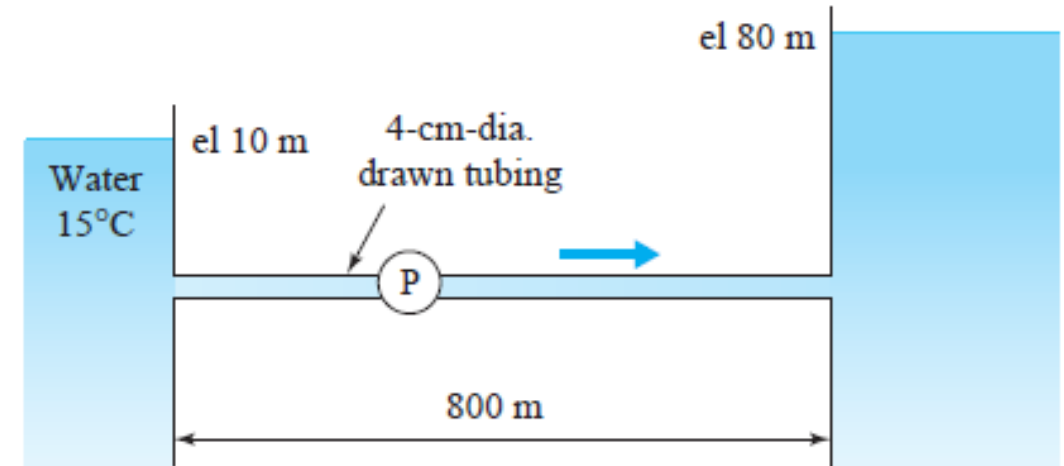

Fig. P7.132
7.132 What pump power (85% efficient) is needed for a flow rate of $0.01 \text{ m}^3/\text{s}$ in the pipe shown in Fig. P7.132? What is the greatest distance from the left reservoir that the pump can be located?